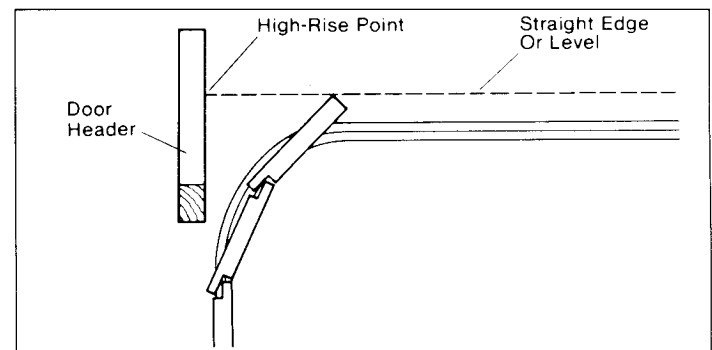

Figure 12
Step 20: Determine high-rise point of door (highest point door reaches when opening) (see Figure 12). Place straight edge or level at top of the center of the door at its highest point of travel. Make sure straight edge is level and mark the door header where it touches. This is your high-rise point.